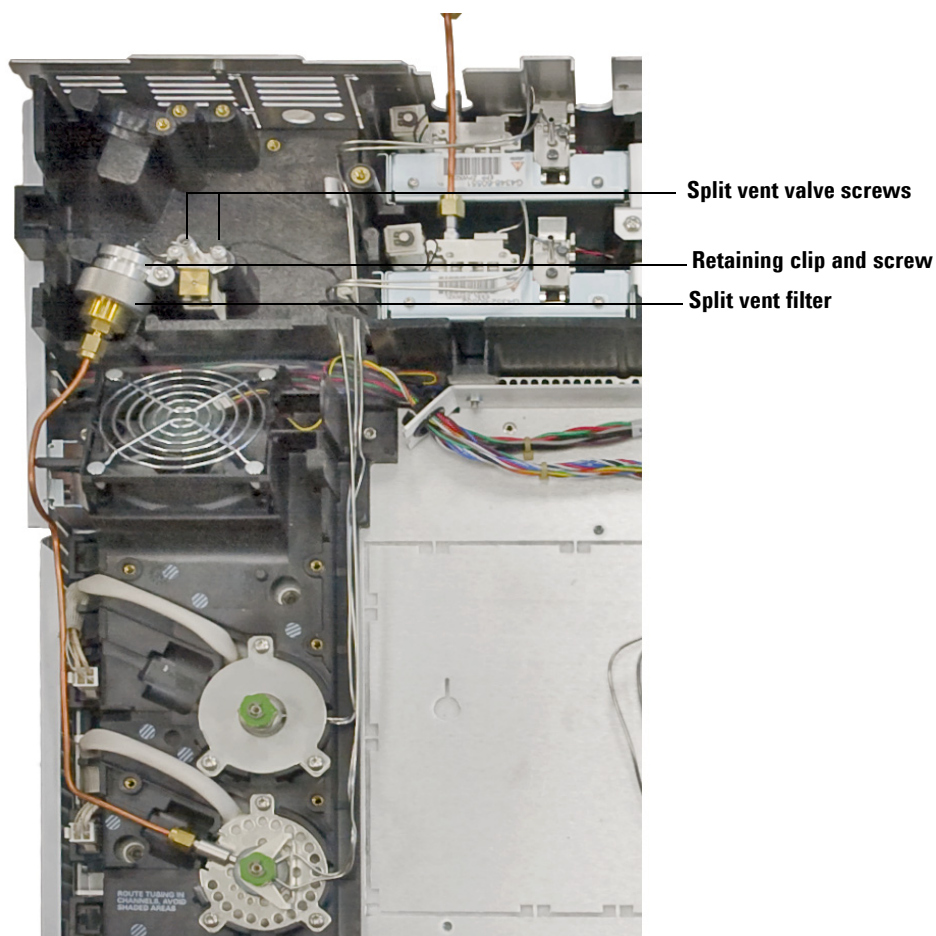

Figure 9 Split vent filter assembly fully installed
- 2 Install the split vent filter into the appropriate housing, making sure that the flat sides on the split vent filter are vertical. The split vent filter will lock into place when properly installed. See Figure 9.
- 3 Align the split vent valve assembly over the two screw holes and secure using two captive screws. See Figure 9.